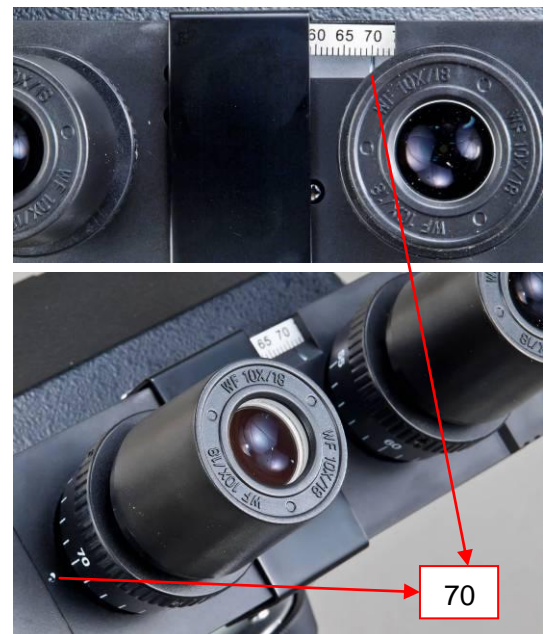

Fig. 5
- 2) Rotate the diopter ring on the right eyepiece tube until its numerical value is the same as your interpupillary distance, for example, 70 in the right figure (See **Fig. 5**).